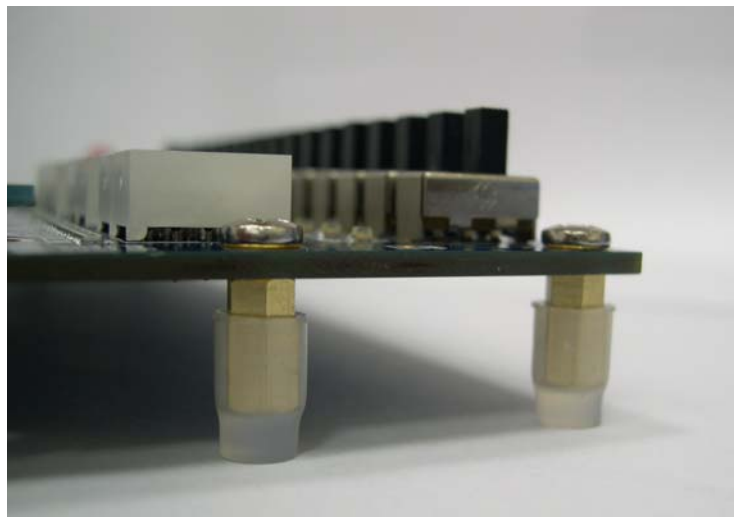

Figure 1-2 The feet for the DE0 board.
- Assemble a rubber (silicon) cover, as shown in Figure 1-2, for each of the four copper stands on the DE0 board